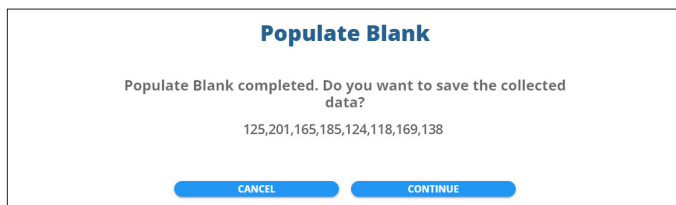

Fig. 66—The message indicates that the blank measurements have completed.
9. After the measurement is completed, a message appears (Fig. 66). Press *OK* to complete the sequence. You may re-sample the blanks as many times as desired, now or in the future.